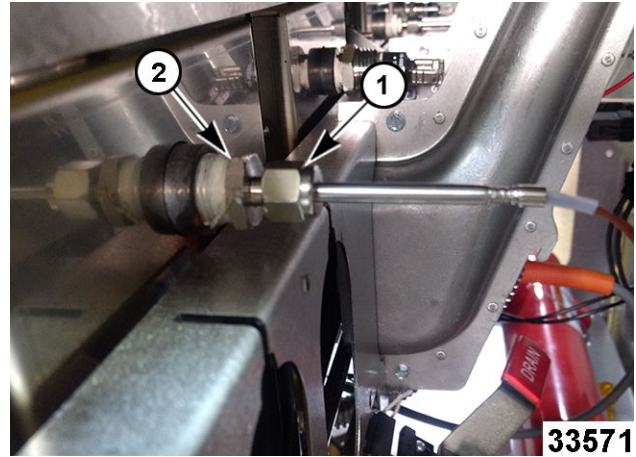

Fig. 58
8. Loosen packing nut (1, Fig. 58).
9. Remove mounting nut (2, Fig. 58).
15. Tighten mounting nut (2, Fig. 58).
16. Tighten packing nut (1, Fig. 58).